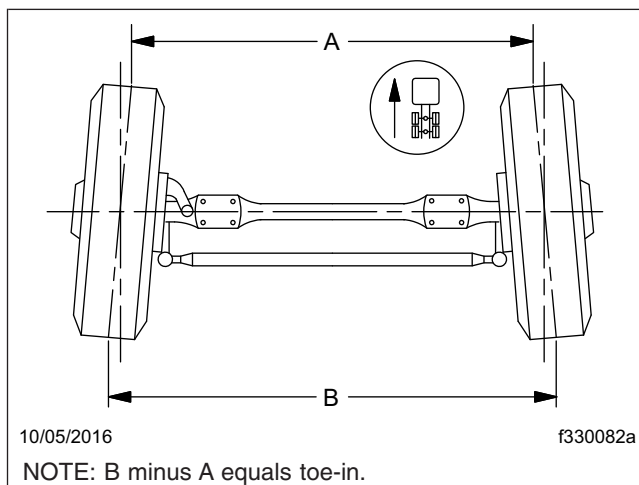

Fig. 6, Wheel Toe-In (overhead view)
6. Place a trammel bar at the rear of the front tires; locate the trammel pointers at spindle height, and adjust the pointers to line up with the scribe lines on the center ribs of the front tires. See Fig. 6. Lock the pointers in place. Check that the scale is set to zero.